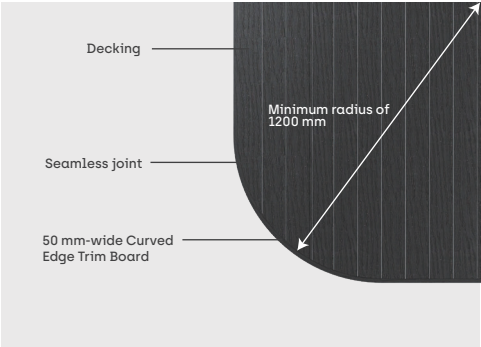

Figure 6-4
5. SKINGRAIN curved edge trim board is a 50 mm-wide flexible product with rounded edges. It is designed for finishing curved or irregular platforms and step edges. With a minimum bending radius of ≥ 1200 mm (at 20°C), the board must have a minimum of 25 mm of its width securely fastened to the joist, and the maximum allowable overhang from the end of the trim board is 9 mm. As shown in Figures 6-4 and 6-5. The detailed information of the cured edge trim board refer to the PE joist installation guide.